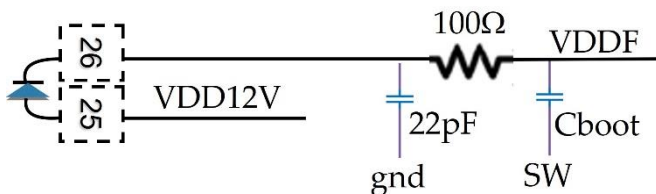

Figure 4: Filter for high frequency spikes on DiodeK.
**DiodeK (Pin26):** Cathode of the floating diode. To be connected to the Bootstrap capacitor. Please note that this pin experiences the bootstrap voltage with the high dynamics SW voltage superimposed, including the HS switch reverse conduction during td\_ON, in case of negative inductor current. Therefore, to prevent overvoltage and ensure a reliable operation, an RC filter must be added to this pin, as shown on Fig. 4.